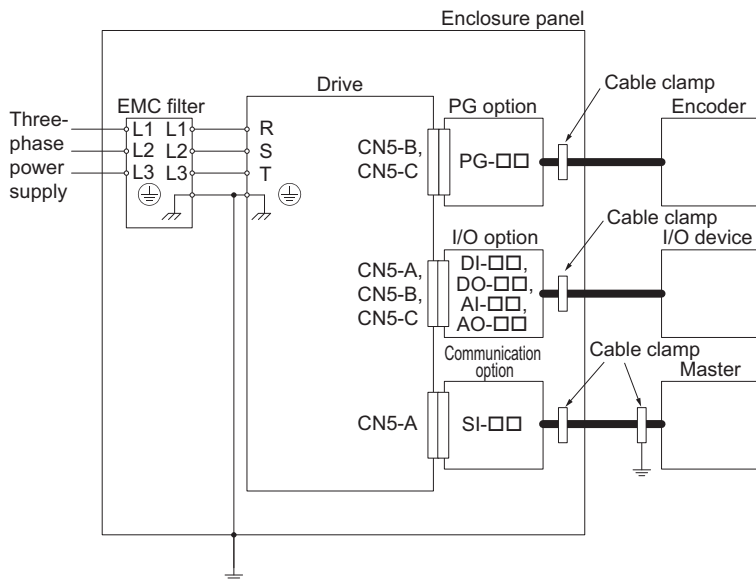
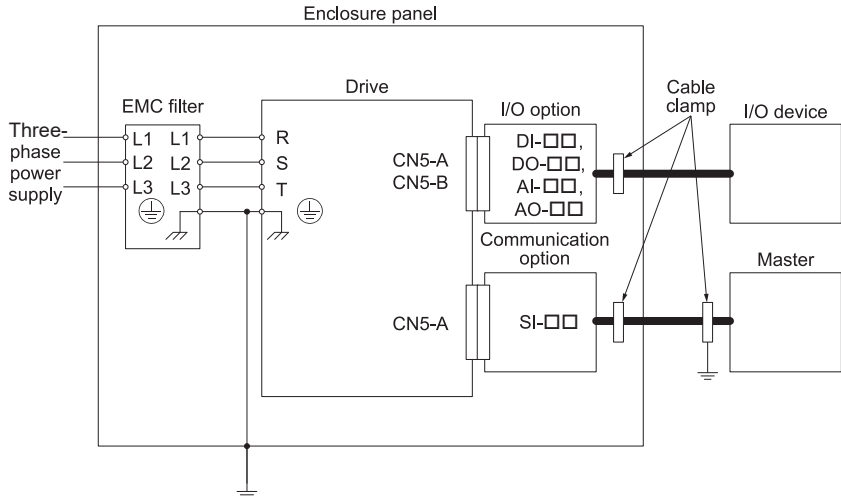

Figure 36 Option Installation for CE Compliance: 1000-Series, GA700, GA800, CR700, CH700, LA700
Figure 37 Option Installation for CE Compliance: FP605
2. Keep wiring as short as possible and ground the largest possible surface area of the shield to the metal panel according to Figure 36 and Figure 37.